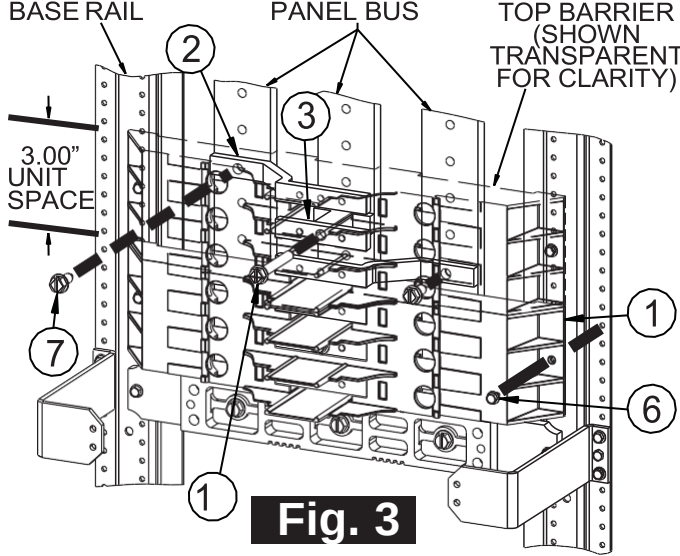

Fig. 3
6. Refer to Fig. 3: Position the breaker mounting barrier (Item 1) so that it fills the 3" unit space for the kit and fasten it to the base rails using two #8-32 screws (Item 6). Install the two outer connectors (Item 2) and the center connector (Item 3) within the mounting barrier, as shown. Fasten the outer connectors to the panel bus with two 1/4"-20 x 5/8" screws (Item 7) and center connector with one 1/4"-20 x 1-7/8" screw (Item 11).